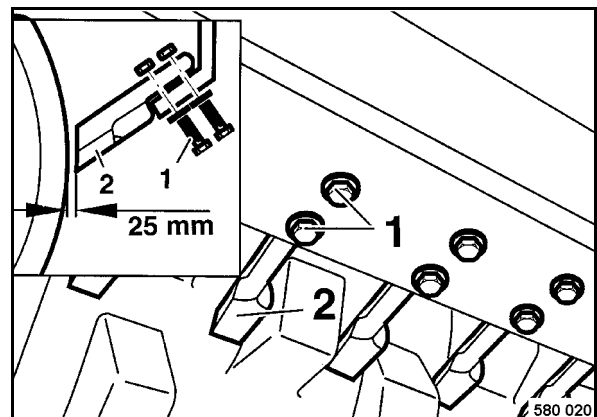

Fig. 161
- Check condition and adjustment of scrapers 2 (Fig. 161), adjust or replace the teeth if necessary.
- To adjust the scrapers (2) slacken the fastening screws (1) in the slots and move the scrap-